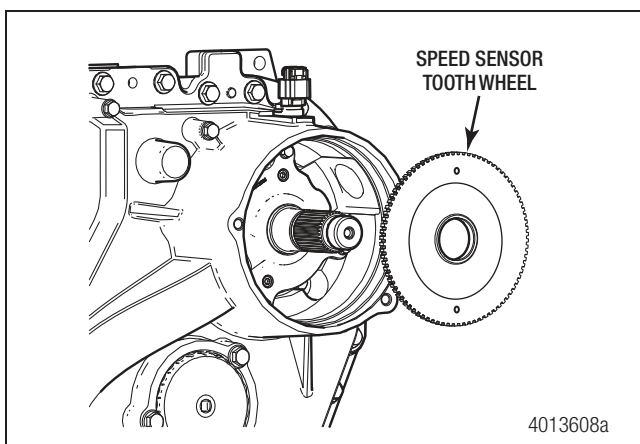

Figure 4.7
- Use a bearing separator and press, small gear puller, or other suitable tool to remove the speed sensor tooth wheel from the shaft. Refer to "Tools" on page 60. Figure 4.7.